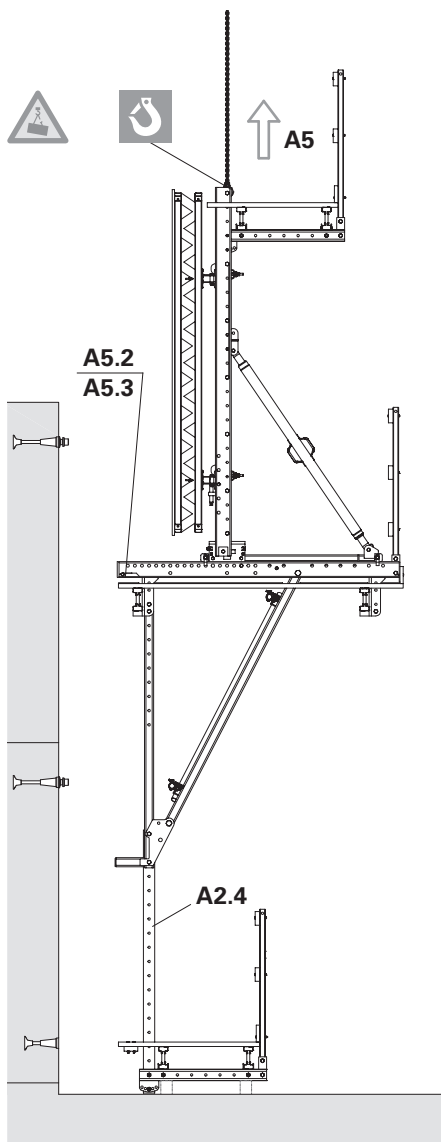

Fig. 11
5. If necessary: mount access ladder to the finishing platform, see A2.10. (Fig. 11)